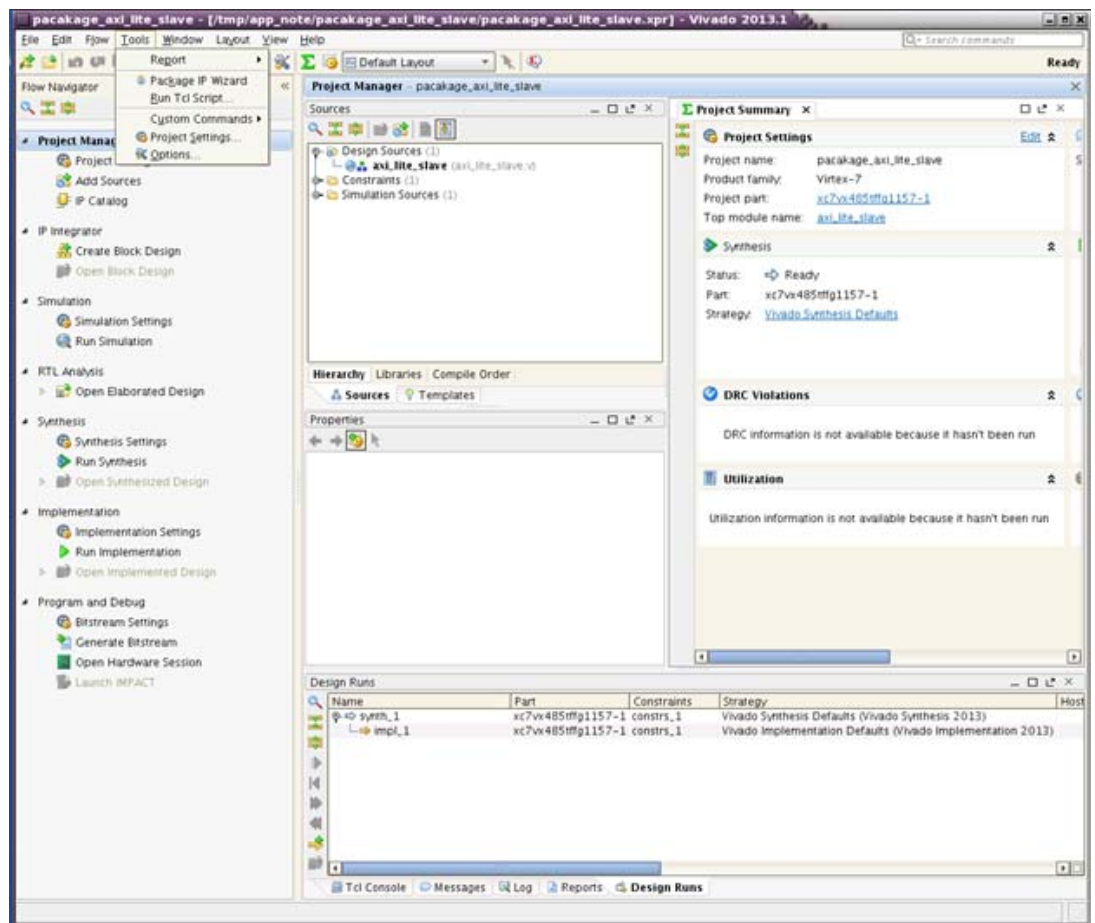

Figure 6: Selecting Tools > Package IP Wizard
1. Select **Tools > Package IP Wizard** (Figure 6).